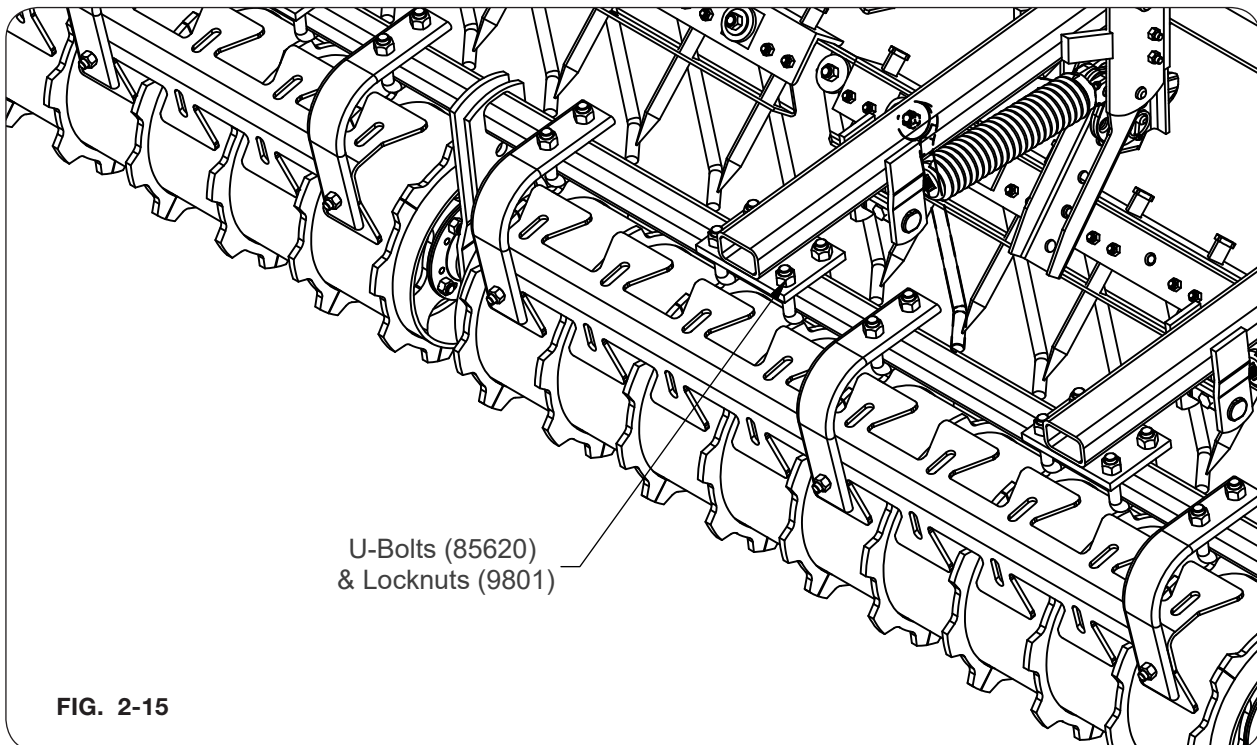

FIG. 2-15
2. Position "Drum Roller" assembly to mounting arms, align holes and install 5/8"-11 U-bolts (85620) and secure with locknuts (9801) (Fig. 2-15). Torque according to Torque Chart in "MAINTENANCE" Section, tightening evenly to have the same number of threads exposed on each side.